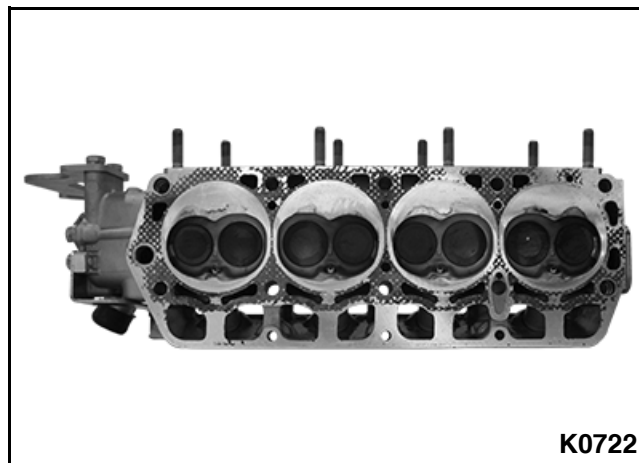

Figure 3-120
1. Using a wire brush, completely remove all carbon deposits from cylinder head. **See Figure 3-120.**